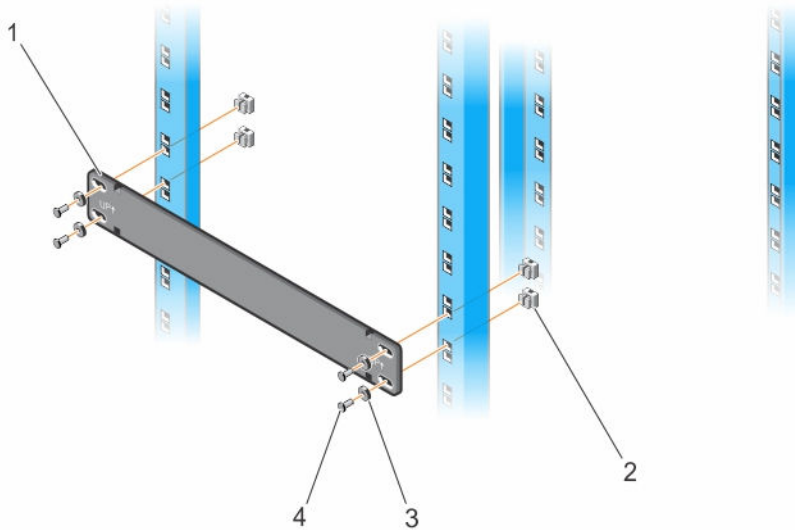

Figure 6. Installing a Rack Bar in a 4-Post Rack
Use the rack bar as a guide to mount the chassis. It is not required to support the weight of the chassis; you can remove it when the chassis is securely mounted in the rack. To install the rack bar, first insert two cage nuts (item 2 in Figure 6) into each post at the desired height.
Hold the rack bar (item 1 in Figure 6) so that the smooth side faces outward and the arrows point upward. Align the holes in the rack bar with the cage nuts in the posts. Attach the bar to the front-rack posts using the mounting screws and washers shipped with the rack bar (items 3 and 4 in Figure 6). Tighten each screw to secure the rack bar to the posts.